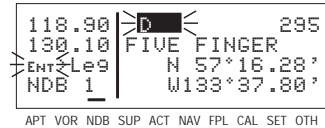

Figure 4-48
5. Press **ENT** and the display will change to the waypoint page for the selected waypoint (figure 4-48).